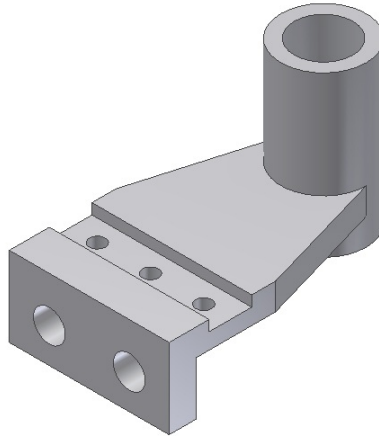

Figure 5-103 Final model for Tutorial 3
- d. Create a hole in the cylindrical feature by defining a new sketch plane on its top face, refer to Figure 5-103.
- e. Create two holes by defining a sketch plane on the left face of the model, refer to Figure 5-103.
- f. Define a new sketch plane on the top face of the groove which is on the top face of the model. Then, create three holes on it, refer to Figure 5-103.
1. Create the remaining cut features by creating their respective sketches on the sketching planes. For dimensioning, refer to Figure 5-96. The final model after creating all the cut features is shown in Figure 5-103.